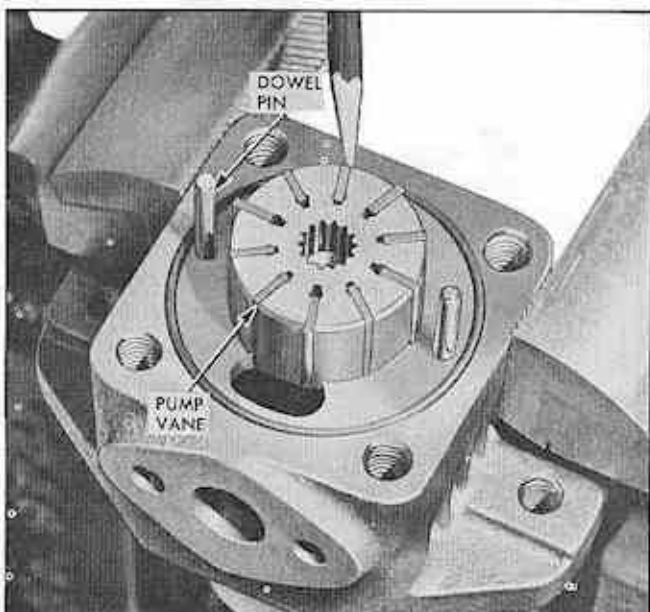

Fig. 99 Removing Pump Vanes
10. Remove ten pump vanes (Fig. 99).